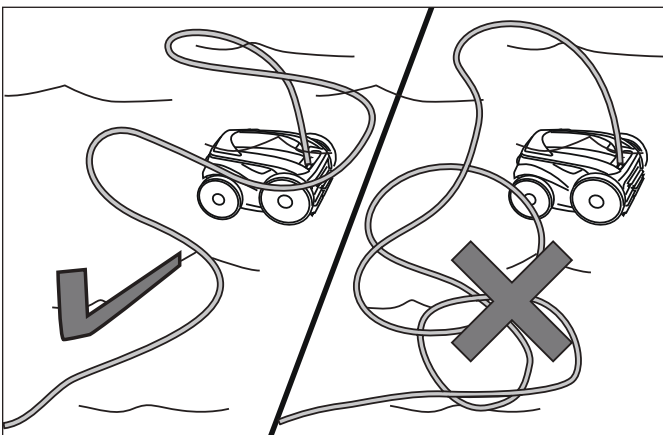

Figure 18. Spread Floating Cable Over the Pool
3. Spread out the floating cable over the pool, ensuring there are no kinks or coils in the cable. Refer to Figure 18.